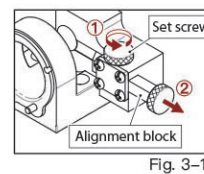
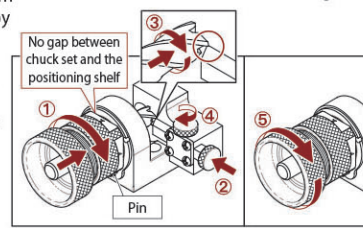
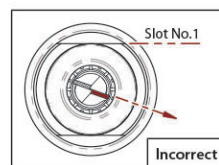

Fig. 3-1
Fig. 3-2
Fig. 3-3
1. Preset the position of the alignment block. (Fig. 3-1)
- ① Loosen the set screw by counterclockwise.
- ② Pull out the alignment block to the end.
2. End mill positioning (Fig. 3-2) :
- ① Align Slot No.1 of the clamping nut to the pin on the positioning shelf, insert the chuck set into the positioning shelf and fit them with no gaps, then turn the chuck set clockwise until it stops by the pin.
- ② Slowly move the alignment block inward.
- ③ Push the end mill to the end and slowly turn it clockwise until the outer corner of the end mill's longer cutting edge touches the tip of the alignment block.
- ④ Turn the set screw clockwise to lock the alignment block.
- ⑤ Tighten the chuck set to secure the end mill.
3. Gently turn the chuck set counterclockwise and take it out, make sure the end mill's longer cutting edge is parallel to the Slot No.1 of clamping nut (See Fig. 3-3).
- ※ If the end mill's longer cutting edge is angled away from the Slot No.1 of clamping nut (Fig. 3-3), change to the alignment block with a notch on the front, insert with the notch facing up (Fig. 3-4), then reposition the end mill.